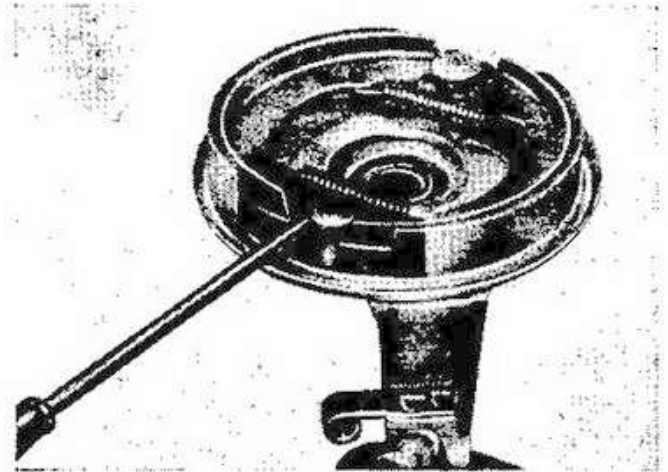

Fig. 78 Removing brake shoe VI / 57 / 501
3. Insert a screwdriver between brake shoe and brake cam, as illustrated in fig. 78, and lift brake shoe from the brake cam groove.